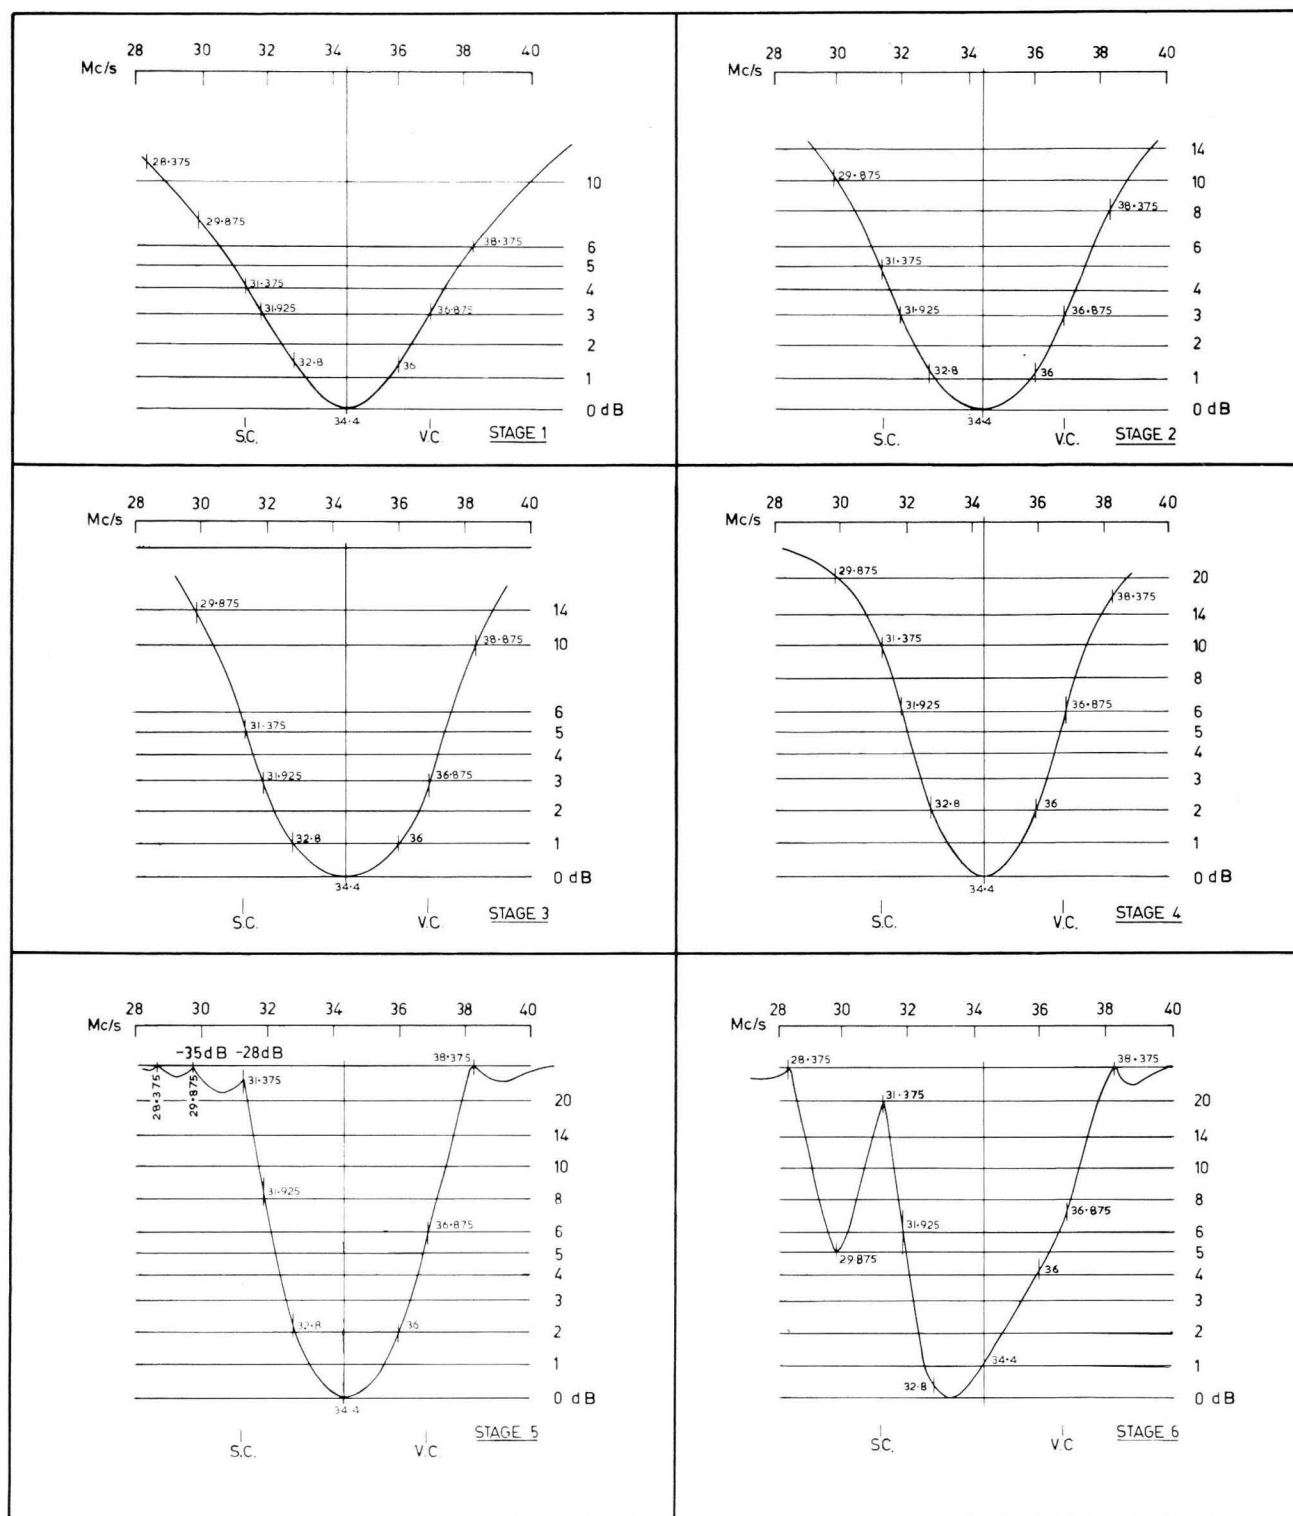

FIG. 3
- (b) Adjust the cores of L27 and IFT3 to obtain the response of Fig. 3 (Stage 1).
- (b) Maintaining the level of the display unit constant by varying the sweep output, adjust the cores of L25 and IFT2 to obtain the response of Fig. 3 (Stage 2).
- (b) Adjust the cores of L23 and IFT1 to obtain the response of Fig 3 (Stage 3).
- (d) Adjust the cores in L11 (IF output coil, located adjacent to V2 on the tuner), and L21 to obtain the response of Fig. 3 (Stage 4).
- (g) Replace bias and connect display unit to test point on L33. Check to see that the response to the sound IF detector is similar to response of Fig. 3 (Stage 6).